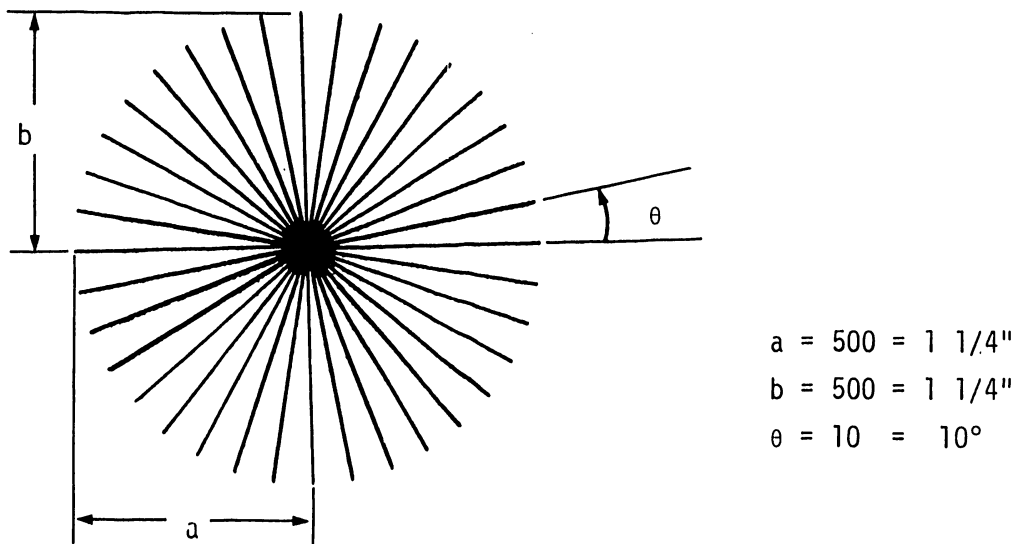

FIGURE 37
2) Example (See result, Figure 37)